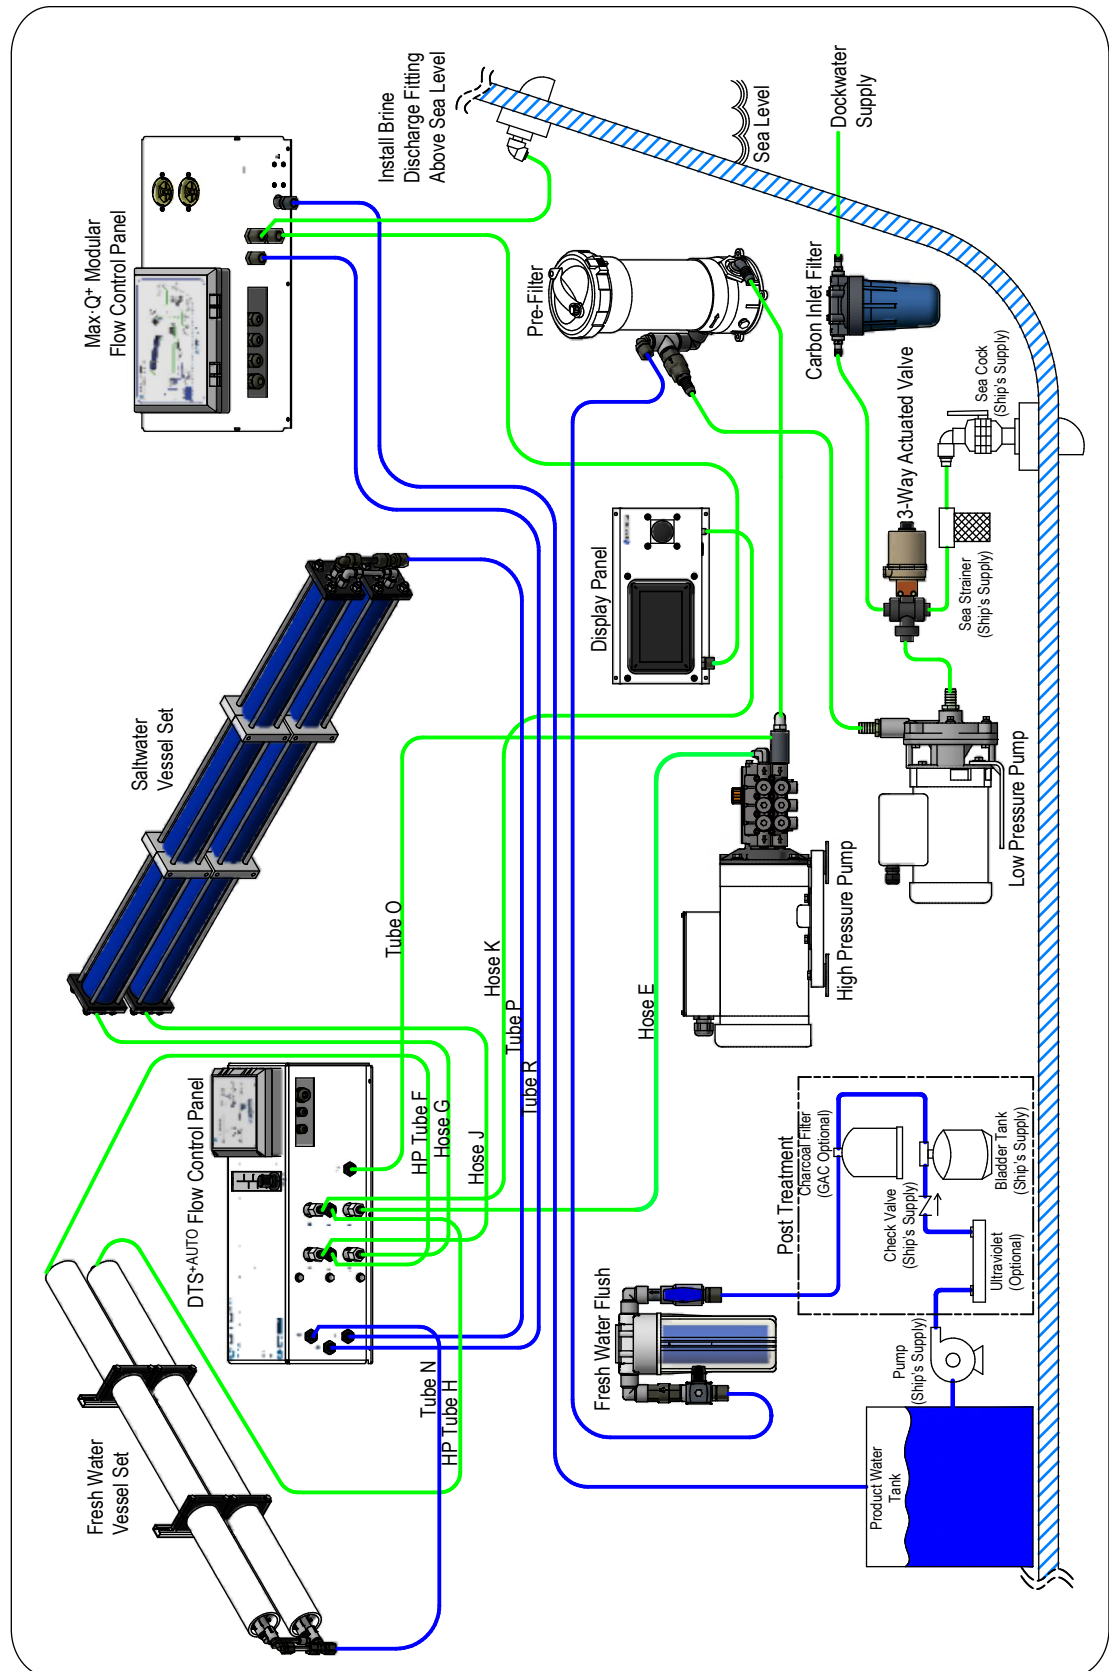

Figure 29: Max-Q+ Modular 1,275 GPD with DTS+AUTO
- "Figure 29: Max•Q+ Modular 1,275 GPD with DTS+AUTO" on page 51